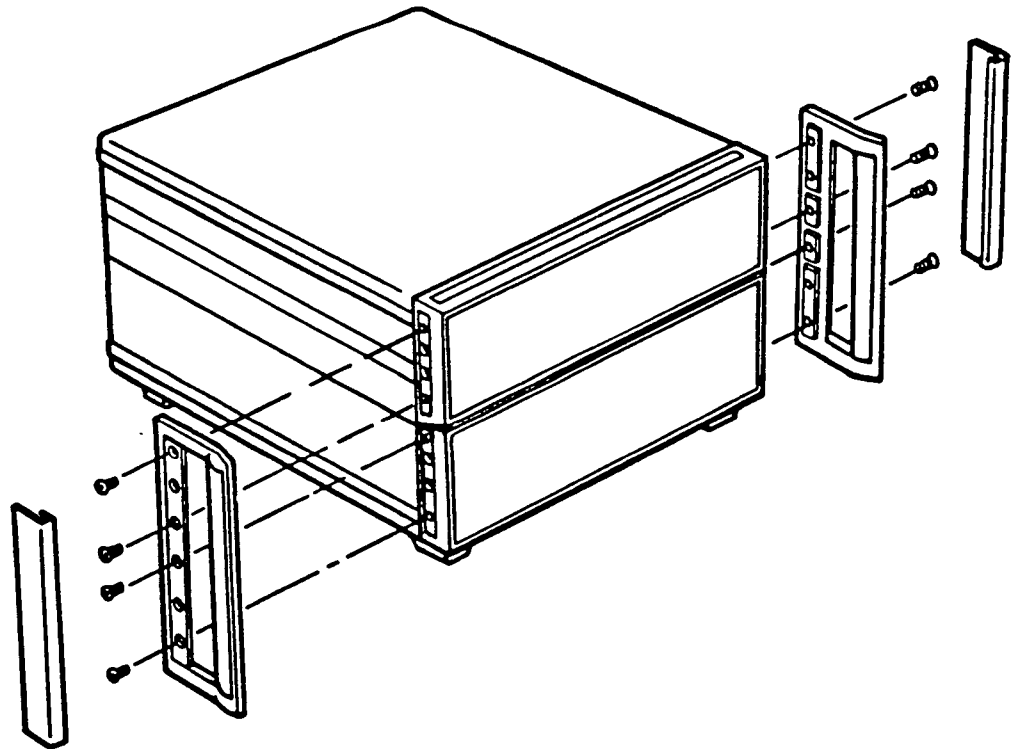

FIGURE 2. INSTALLING RACK MOUNT KIT
2. Attach the new rack mount flanges and front handles provided in the Rack Mount Kit. (See Figure 2.) Use the eight M4x0.7x16 pan-head screws included in this kit.